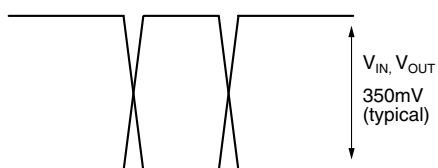

Figure 1c. Single-Ended Swing
**Note 5.** See Figures 1c and 1d for  $V_{DIFF}$  definition.
**Note 5.** See Figure 1c.